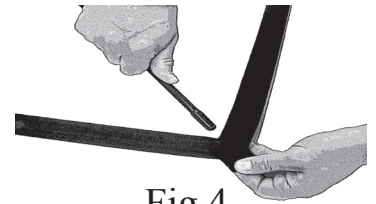

Fig.4
4. Starting at one corner, insert the end of the pole (with the rubber cap) into the pocket that is sewn into the Nylon Base. Repeat this step for the other three poles. When making the connection at the last corner, lift the pole up as you insert it into the pocket. This will force the center of the structure up to create the dome shape. (Fig.4)